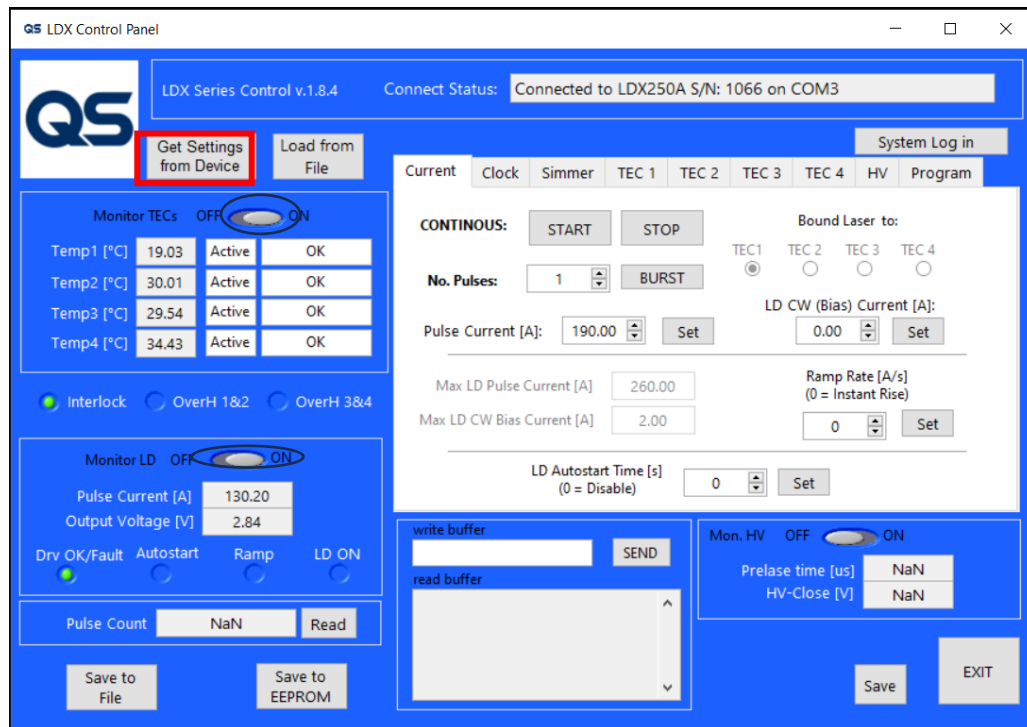

Fig. 17. LDX Control window for Laser.
4. Press "Get settings from device" in LDX Control window (**Fig. 17**).
5. Turn on "TEC's monitor" in LDX Control window (**Fig. 17**).
6. Turn on "LD monitor" in LDX Control window (**Fig. 17**).